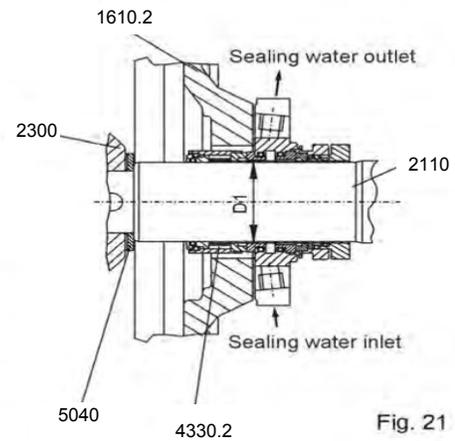

Fig. 21
6.2.2 Cartridge double mechanical seal (CDMS3) (Fig.21):